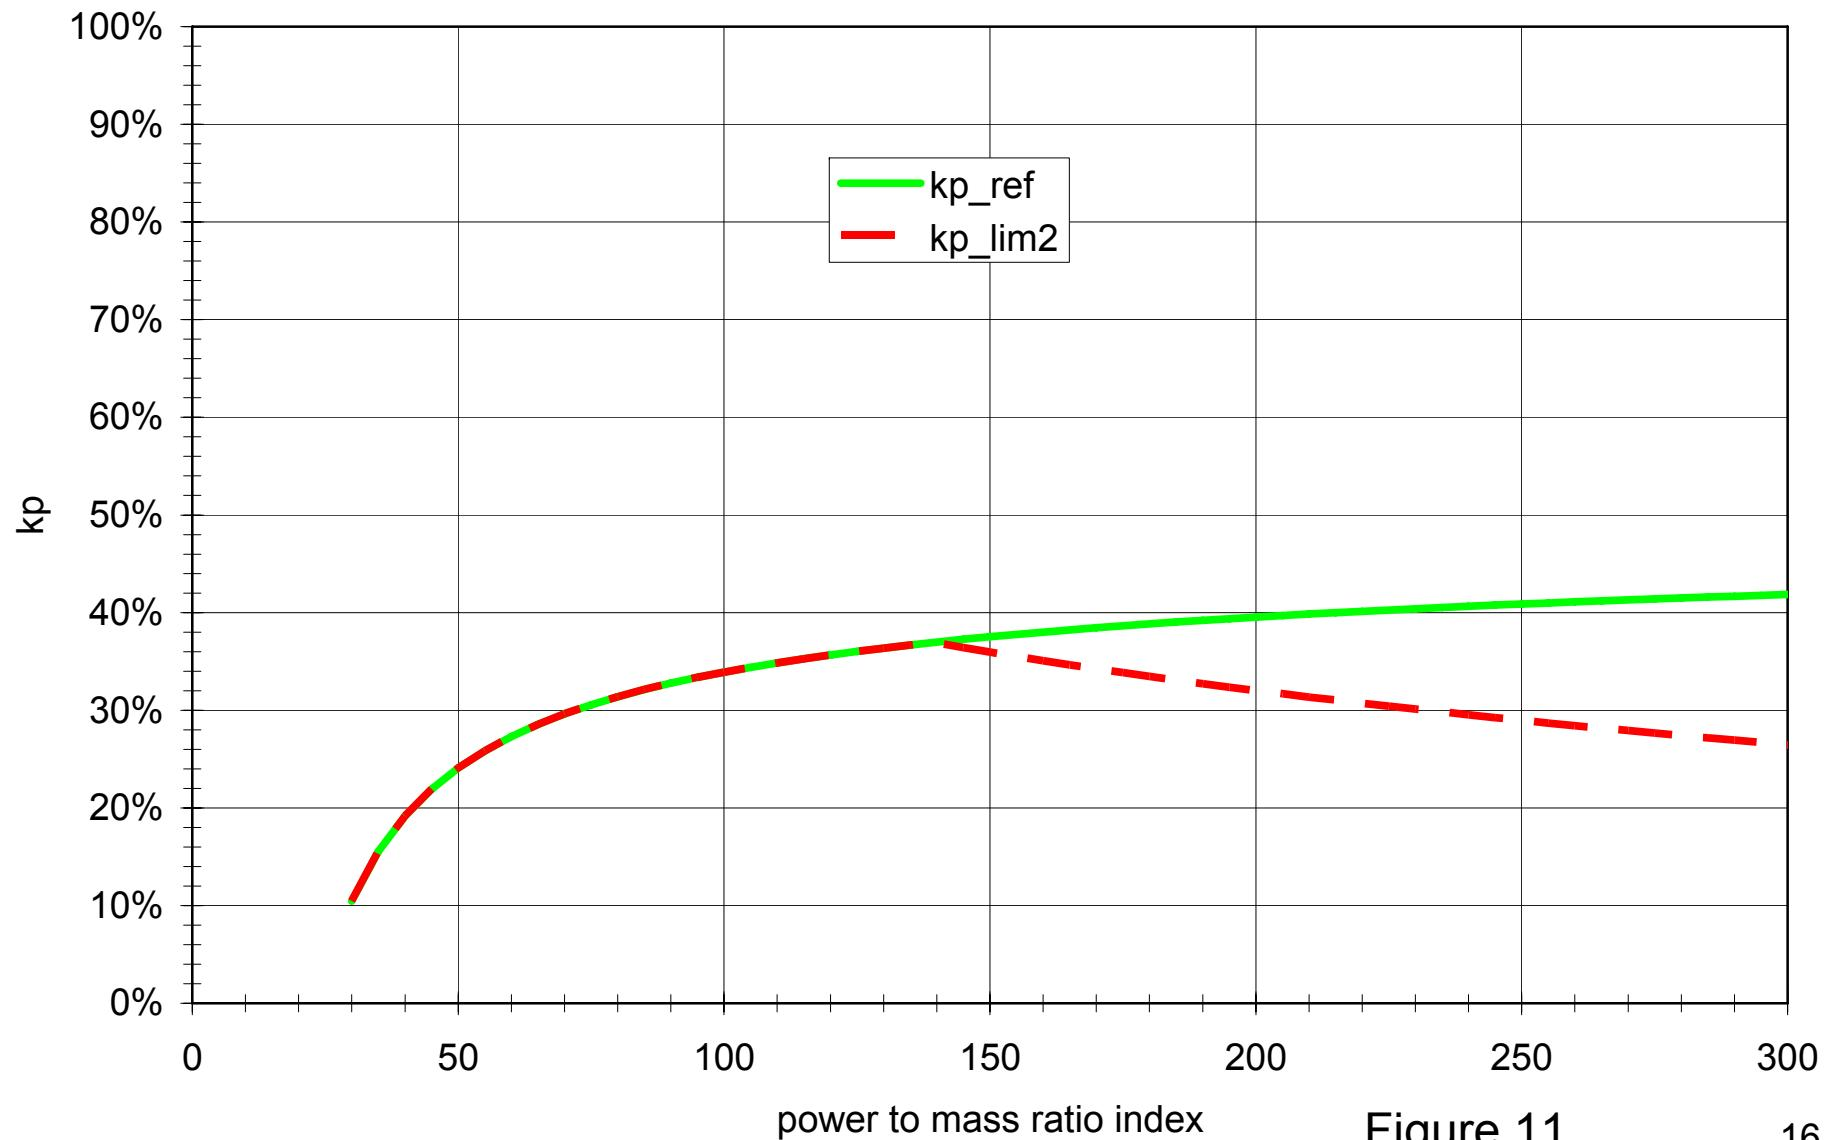

Figure 11
- The limitation of the acceleration in annex 3 to 2 m/s² leads most probably to lower engine speeds than n_ASEP_ref and lower kp values than kp_ref (see figure 11).